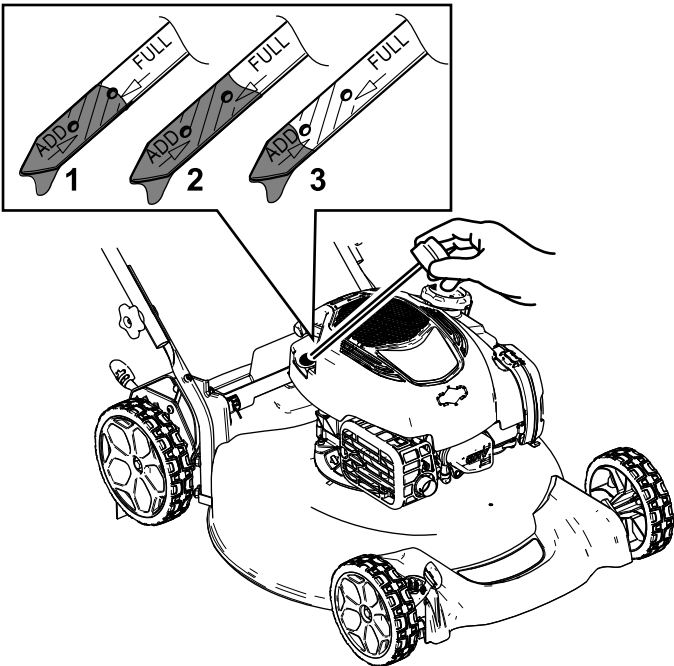

Figure 20
- 3. Remove the dipstick by rotating the cap counterclockwise and pulling it out (Figure 20).
10. Read the oil level on the dipstick (Figure 20).